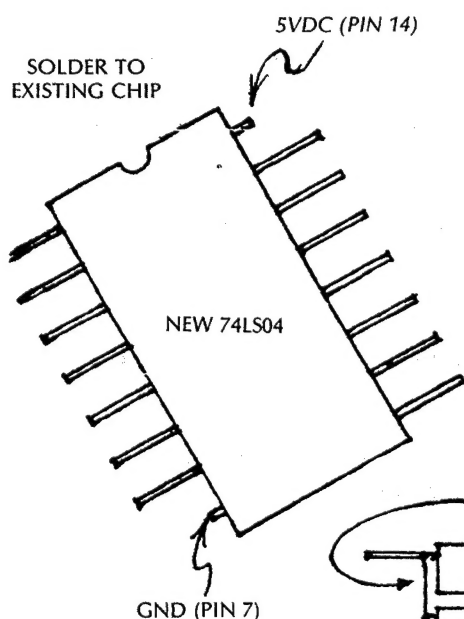

FIG. 1
**CURE 1:** Install a simple one I.C. circuit on your logic board. This I.C. may be "piggy backed" on to another 7404 series chip for power by bending up all but the two power pins so that they are parallel to the top surface of the new I.C. and then connecting the power pins only to the existing chip. (See Fig. 1) Next connect the sync wires as shown in Fig. 2. (Note: Figure 2 shows a hookup for either **composite** or **separate** syncs.)